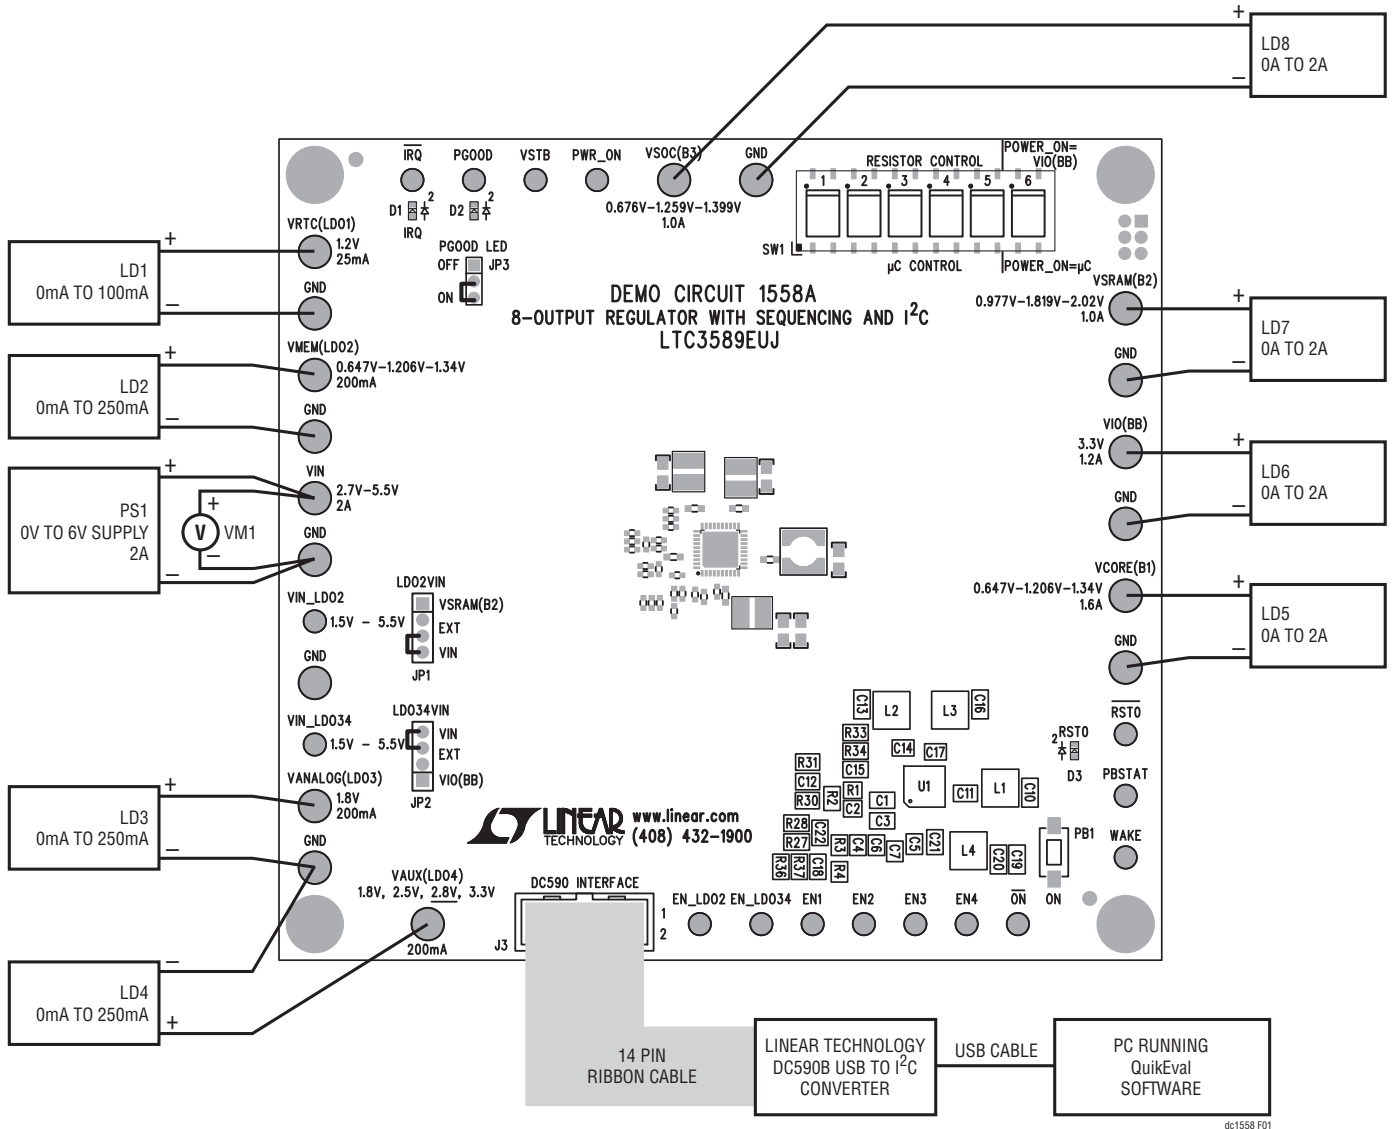
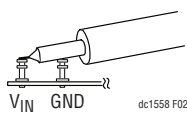

Figure 1. Proper Measurement Equipment Set-Up
Figure 2. Measuring Input or Output Ripple
The DC1558 is easy to set up to evaluate the performance of the LTC3589. Refer to Figure 1 and Figure 2 for proper measurement equipment set-up and follow the evaluation procedure below using the DC590B board.
NOTE. When measuring the input or output voltage ripple, care must be taken to avoid a long ground lead on the oscilloscope probe. Measure the input or output voltage ripple by touching the probe tip directly across the VIN or VOUT and GND terminals. See Figure 2 for proper scope probe technique.
1. Ensure that JP1 to JP3, and SW1 are in their default positions, as shown in Figure 1. Set PS1 to 5V and turn on. The RST0 LED should light until LDO1 comes on, and the PGOOD LED should come on and stay on.